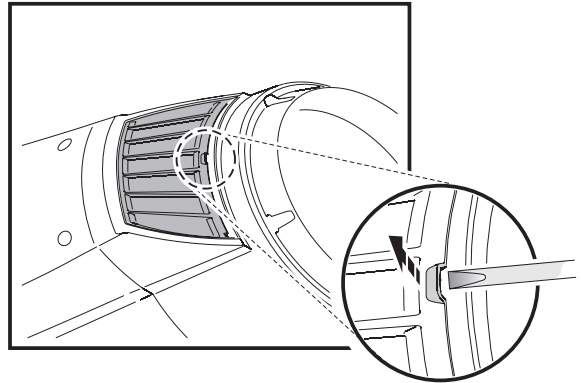

Figure 17: Removing head air filters
2. See Figure 17. On each side of the head, use a flat-bladed screwdriver to lever the front edge of each filter holder away from the head and pull the filter holders forwards to unclip and remove them.